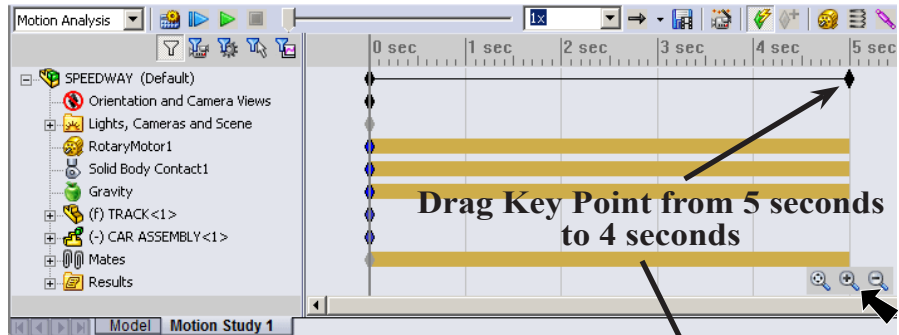

Fig. 23
Step 1. Click **Zoom in**  in lower right corner of the Motion Manager to increase the Time Bar with finer time increments, Fig. 23.